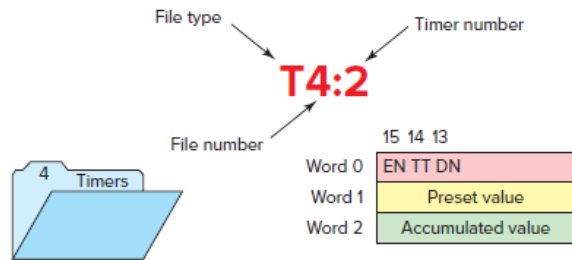

Figure 7-12 SLC 500 timer file.
- The Allen-Bradley SLC 500 timer file is file 4 (Figure 7-12). Each timer is composed of three 16-bit words, collectively called a timer element. There can be up to 256 timer elements.